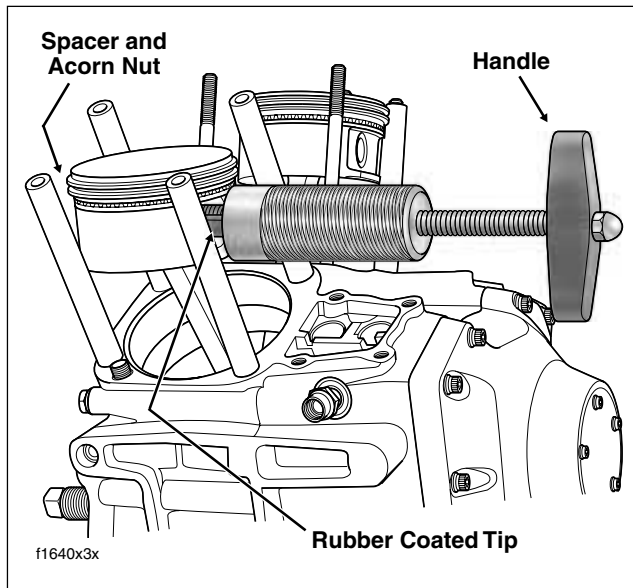

Figure 3-27. Remove Piston Pin
- d. Turn handle in a clockwise direction until piston pin is pulled free of bore. See Figure 3-27.